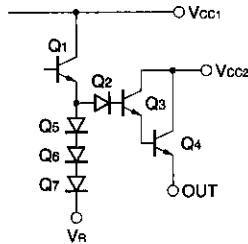

Fig.7
(1) A schematic for the internal circuit associated with the output voltage setting pin (Pin 4) is shown in Fig. 7.